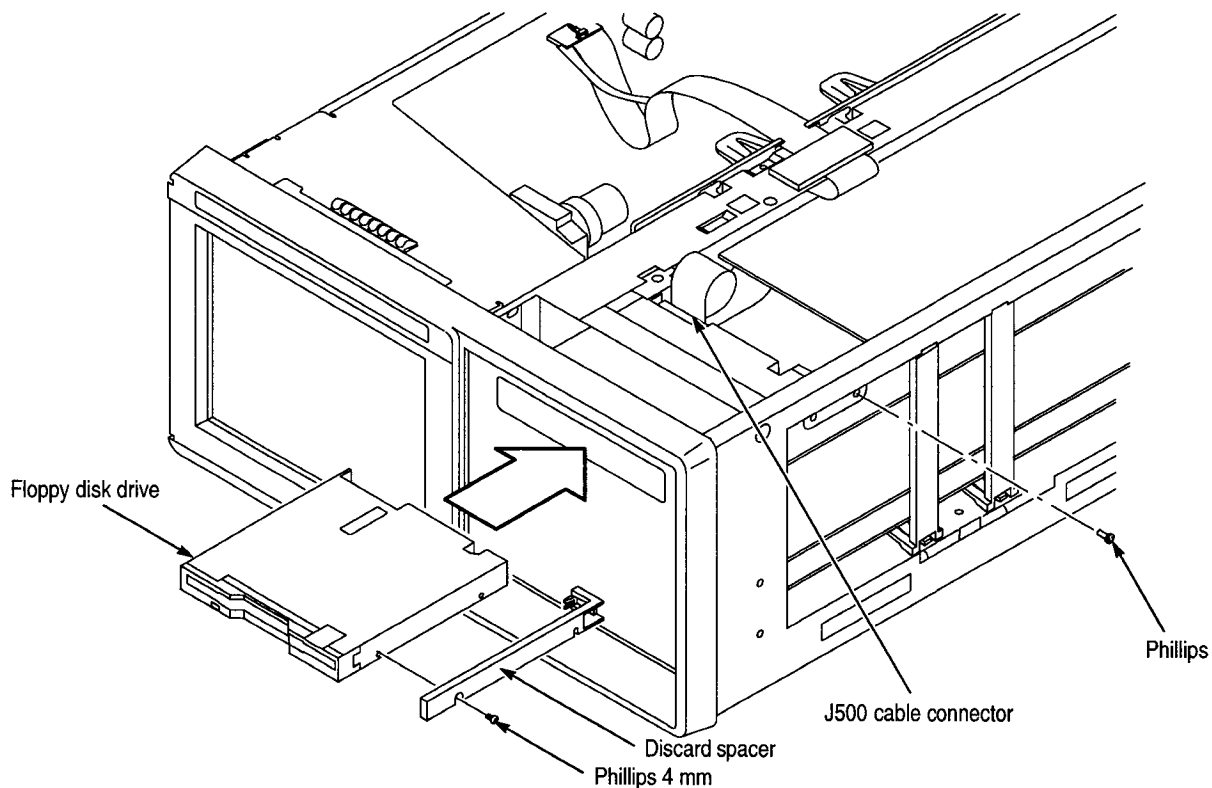

Figure 7: Disk drive installation
NOTE. *Due to vendor differences in floppy disk drive dimensions, your instrument may require an adapter bracket on the bottom of the drive. If this is the case, use Figure 7 as a guide for installation.*
- b. Using a 4 mm Phillips screw, secure the drive to the chassis (see Figure 7).